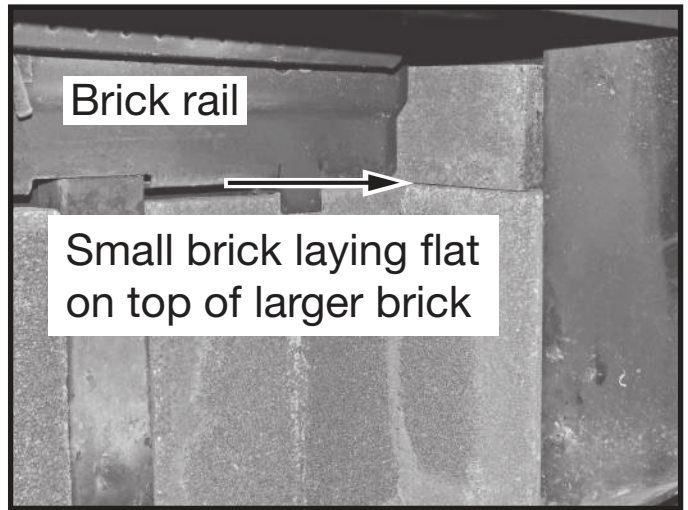

Figure 19: Small (B) brick on top of large full sized brick.
Place one of two small (B) bricks on top of the brick which is up against the side wall (Figure 19). Slide it towards the rear of the firebox so that it is partially behind the brick rail. Push it so that the small brick is seated flat on top of the larger brick. If the small brick is pushed too far, it will ride up onto another component located behind the brick rail, causing there to be a gap between the small and large brick.